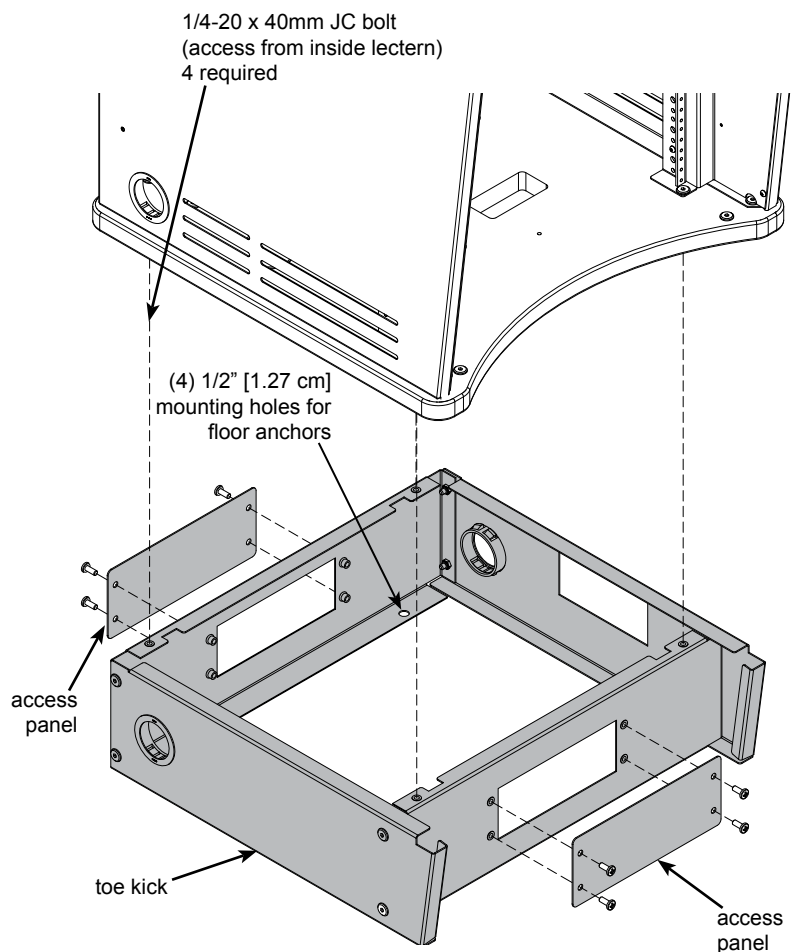

Figure 7
2. Carefully lift the lectern off the toe kick and set aside. This will require several people. **Figure 7.**
3. Determine and locate the toe kick into its final position on the floor and mark the (4) mounting hole locations on the floor. (The toe kick mounting holes are 1/2" dia.)
5. Carefully lift the lectern back onto the toe kick and align the (4) mounting holes.